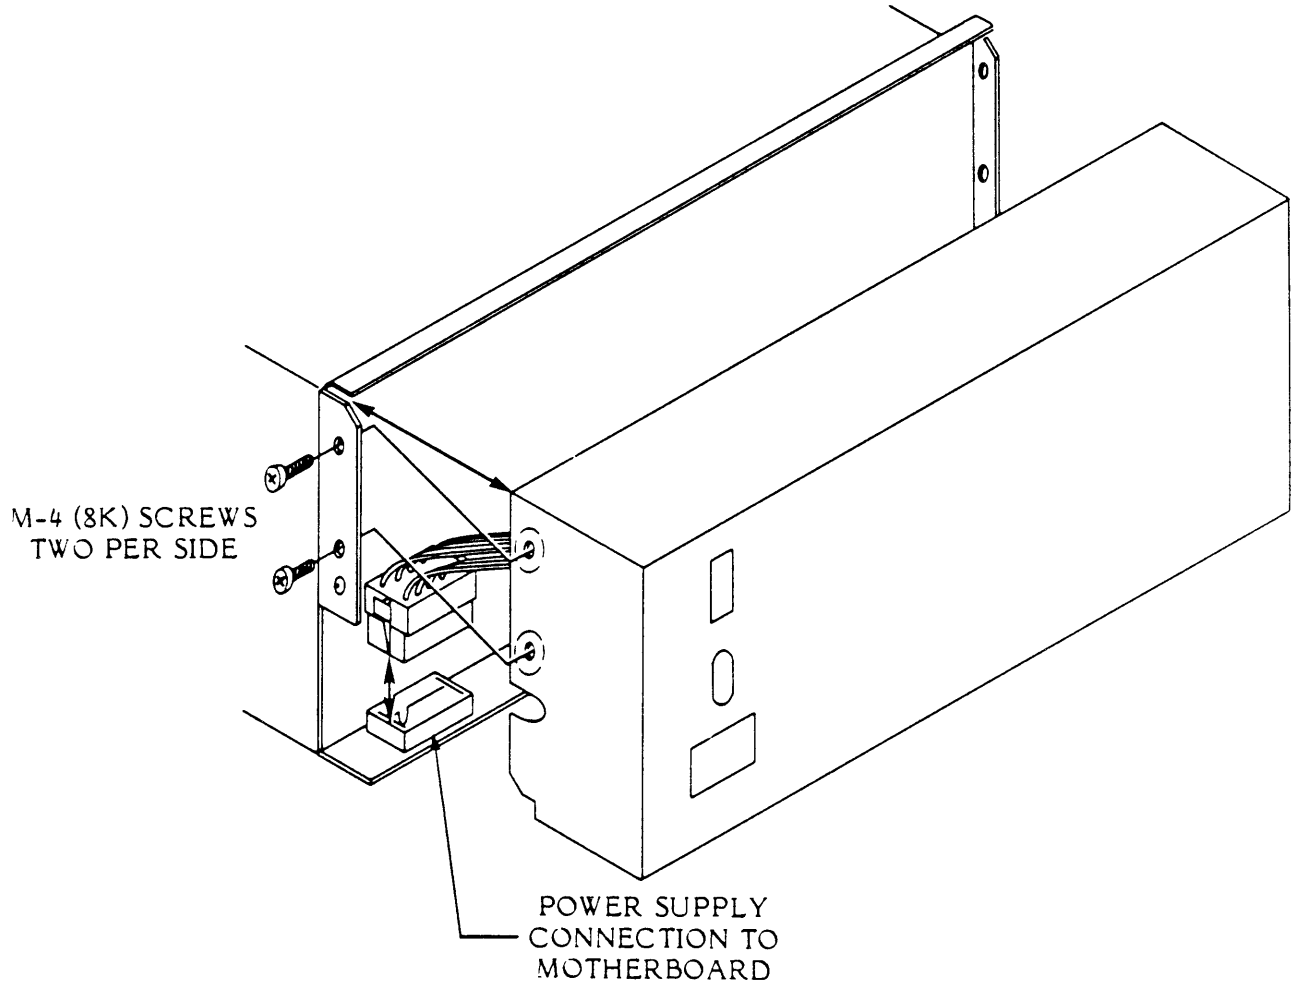

Fig. 7-3: Power Supply Attachment
Refer to Figures 7-3, 7-4, and Table 7-1 for assistance on the following procedures:
The power supply is mounted to the card cage by four screws, two on each side of the card cage (see Figure 7-3).
1. Plug the connector into the motherboard (Figure 7-3). The connector is keyed so that it can be inserted in only one position.
5. Install the four mounting screws (Figure 7-3).
6. Check the rating on the fuse in the rear of the power supply for the voltage selected (Figure 7-3).
- a. Remove the four mounting screws (see Figure 7-3).